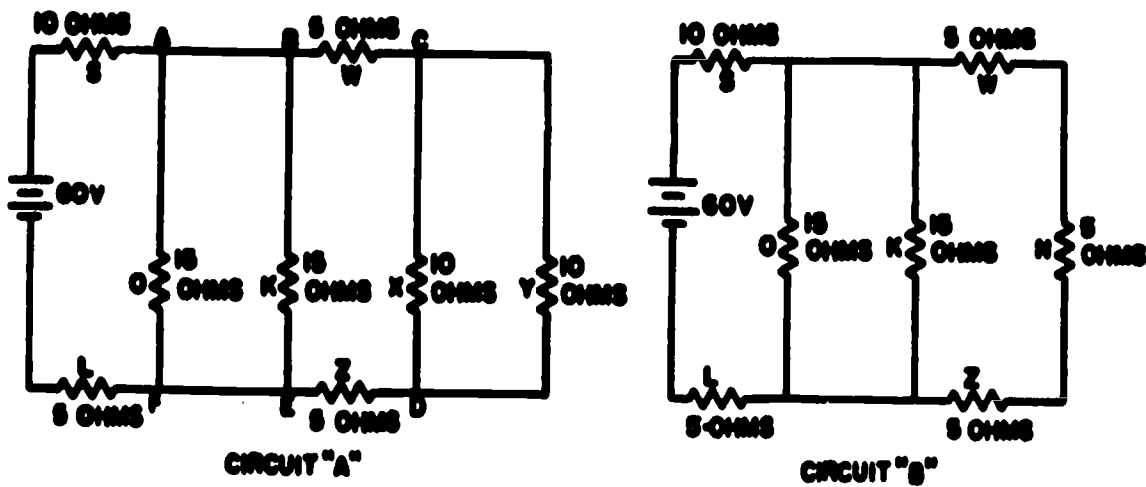
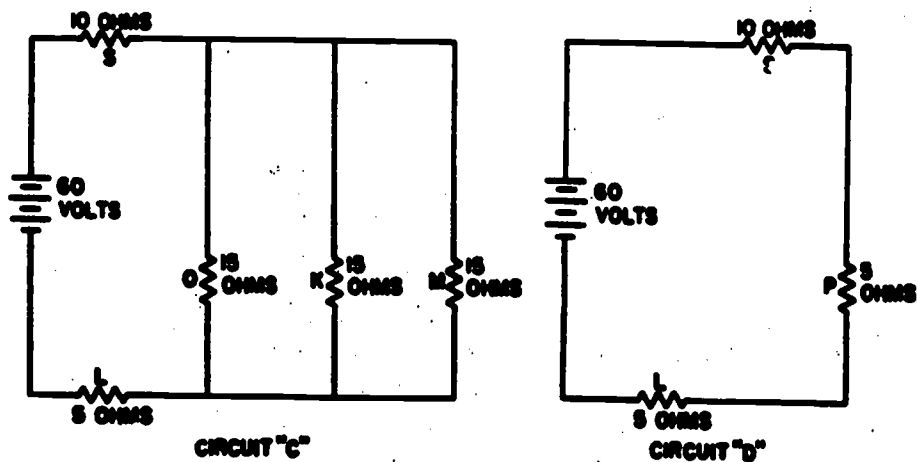

Fig 1-16. Solving series-parallel circuits by simplification.
Fig 1-17. Solving series-parallel circuits by simplified equivalent circuits.
The example just presented was of a very simple nature. In figure 1-16, you have a series-parallel circuit of a less simple nature, and the solution will involve more steps, as you shall see. The steps in the solution of circuit A in figure 1-16 are as follows:
- o Combine resistor X and Y of circuit A; they can be represented by resistance N of Circuit B which is the equivalent circuit of circuit A in figure 1-16. Resistors X and Y are equal and in parallel; therefore, their joint resistance is as follows:
- o Combine resistors W, N, and Z (circuit B of fig 1-16) into a single resistor M of circuit C in figure 1-17. W, N, and Z are in series; therefore, the resistance of M equals 15 ohms ($5 + 5 + 5 = 15$).
- o Combine resistors O, K, and M (of circuit C in fig 1-17) into a single resistance P of circuit D of figure 1-17. Since resistors O, K, and M are equal and in parallel, they can be treated as follows: Total resistance of equal resistances connected in parallel is equal to one resistance divided by the number of connected resistances, therefore:
- o Combine resistors S, P, and L (circuit D, fig 1-17), which are in series. The combined or total resistance (R_T) of the whole circuit equals 20 ohms (10 + 5 + 5).
$$E_p = E_T - (E_S - E_L) = 60 - (30 - 15) = 15 \text{ volts (circuit D, fig 1-17).}$$
- o At point A of circuit A, figure 1-16, there are two paths for the current flow. In a parallel circuit the total current equals the sum of the currents in the branches. Therefore, the current flowing from point A to point B equals $I_T - I_O$, or 3 amps - 1 amp = 2 amps.
- o At C to D of circuit A (fig 1-16) the two currents of 1/2 ampere join, and 1 ampere flows through Z. The voltage drop across Z is 5-volts (1 x 5).